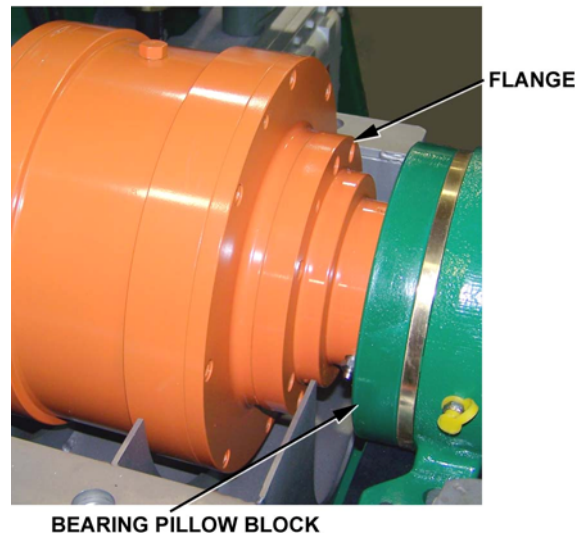

Figure 5-4 Gearbox Removal
- a. Remove six screws securing gearbox (Figure 5-4) to flange.